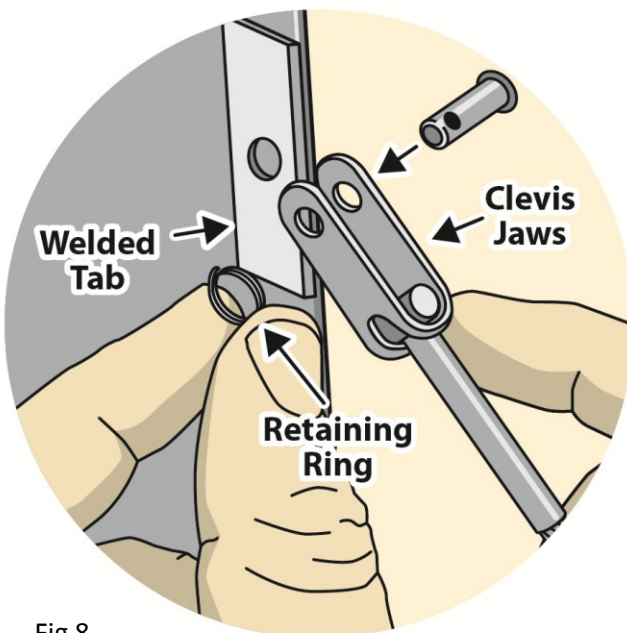

Fig 8
- Remove Retaining Ring from Pin (Fig. 8)
- Engage Clevis Jaws (Fig. 8)